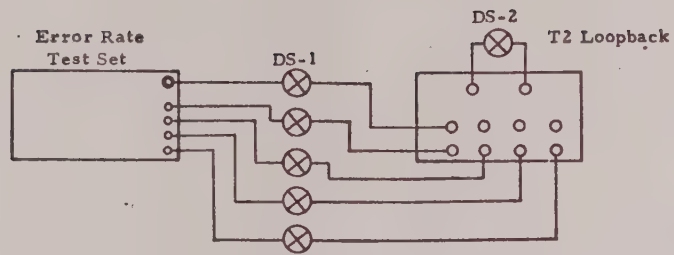

Figure 2A
3.3.4 Multiplexers and modems interfacing DS-1, T1, signals to either higher order digital systems or analog systems are capable of removing bipolar violations from their inputs and/or can cause logical-errors without violations appearing in the output data. The pseudo-random sequence and logical error detection makes it possible to evaluate such systems. As an example, consider the DS-1 to DS-2, T1 to T2, multiplexer (M12) which combines four DS-1 data streams into one DS-2 stream. While the test sequence is needed only for the channel under check, the Error Rate Test Set provides four identical outputs to identically stress all four channels of the multiplexer. Not only are loopback and end-to-end tests possible, but tests over the higher order system or analog medium are also possible as depicted in Figures 2A and 2B.